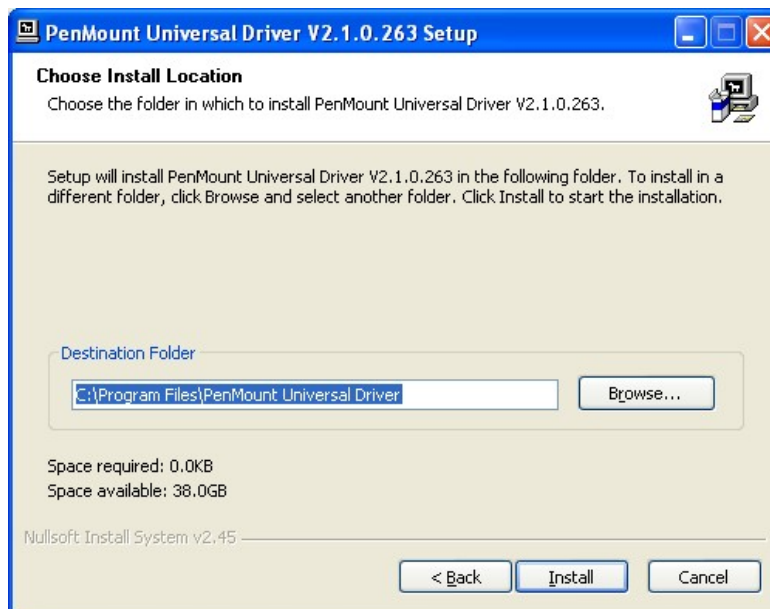

Figure 5-24: Touchscreen Driver Choose Install Location
Step 8: Browse for an install location or use the one suggested (Figure 5-24).